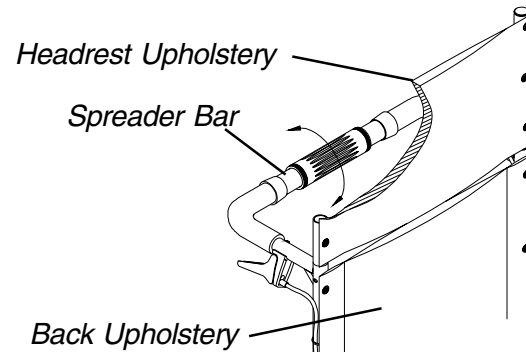

FIGURE 3 - ADJUSTING BACK OR HEADREST UPHOLSTERY
**ADJUSTING BACK OR HEADREST UPHOLSTERY (FIGURE 3)**